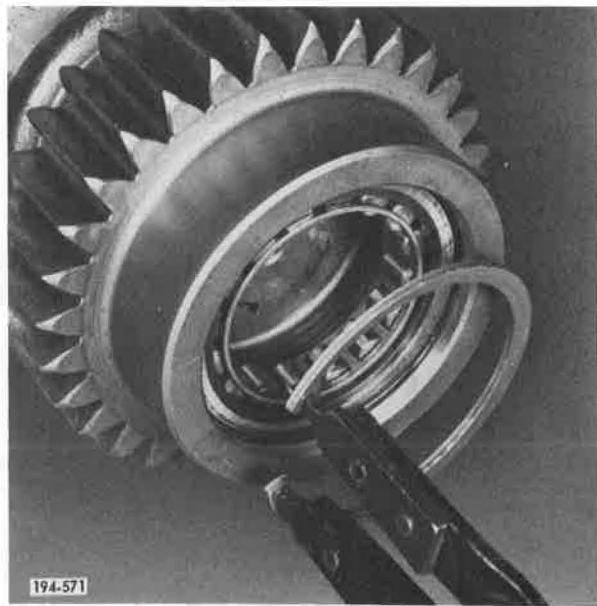

Figure 5-759. Removing Snap Ring
1. Remove rear countershaft front bearing retaining snap ring, using snap ring pliers J-4646 or equivalent. See Figure 5-759.